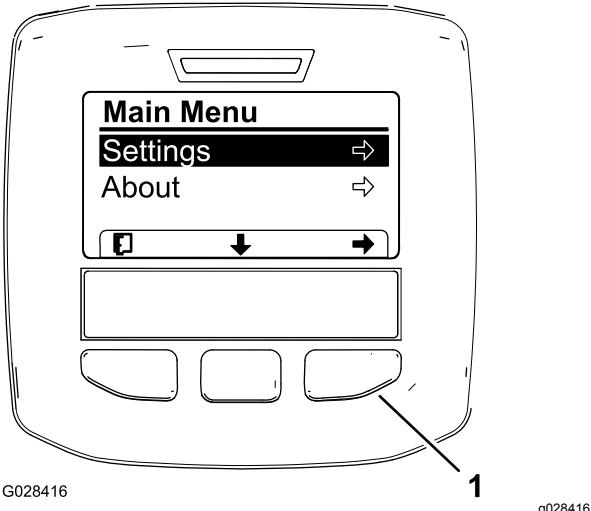
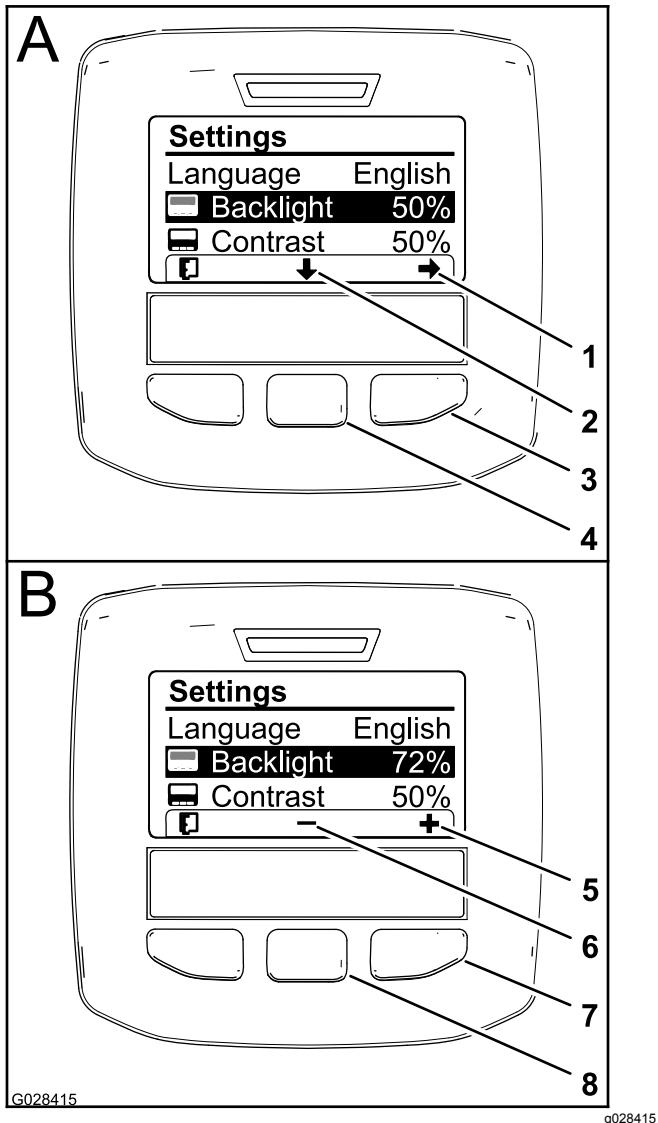

Figure 52
Figure 54
3. Press the center selection button to access the Main Menu (Figure 52).
5. Press the left selection button to save your selection(s), exit the Settings menu, and return to the Main Menu (Figure 52).
2. To adjust the backlight level of the display, press the center selection button (the button below the down arrow icon in the display) to move the selected option down to the Backlight setting (Figure 54).
3. Press the right selection button to display the value adjustment context (Figure 54).
4. Use the center selection button and right selection button to change the brightness level of the display (Figure 54).
selection, exit the Backlight menu, and return to the Settings menu (Figure 54).
- To adjust the contrast level of the display, press the center selection button (the button below the down arrow icon in the display) to move the selected option down to the Contrast setting (Figure 54).
- Press the right selection button to display the value adjustment context (Figure 54).
- Press the left selection button (the button below the list icon in the display) to save your selection, exit the Contrast menu, and return to the Settings menu (Figure 54).
- Press the left selection button to exit the Settings menu and return to the Main Menu (Figure 52 and Figure 54).
- Press the left selection button to return to the Home screen (Figure 54).